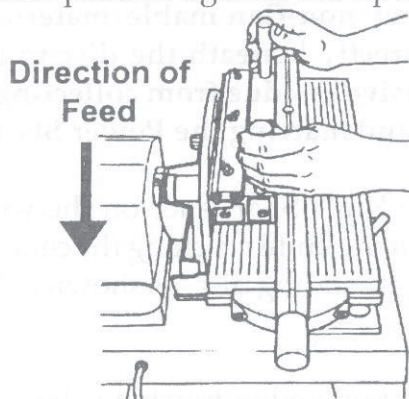

Figure 15
16. Move the Knife Sharpener slowly and steadily to the left, into the rotation of the Conical Sanding Disc. See Figure 15. Always keep the back of the Knife Sharpener pressed against the rip fence.